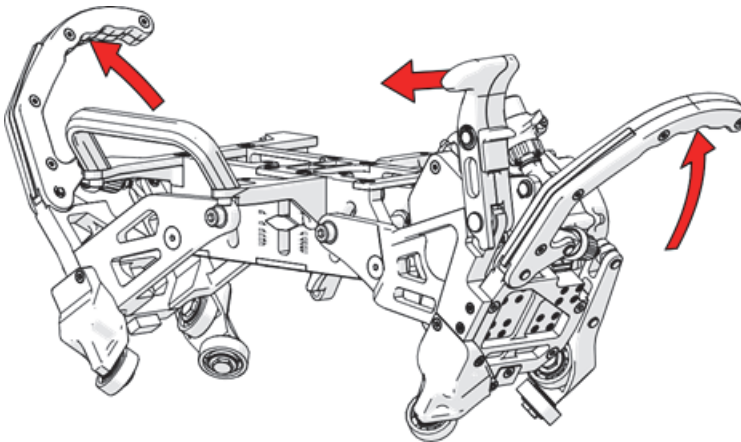

Figure 2-24 Disengage the levers and handle
1. Disengage the band clamp levers and the motor engage handle (see Figure 2-24 on page 100).